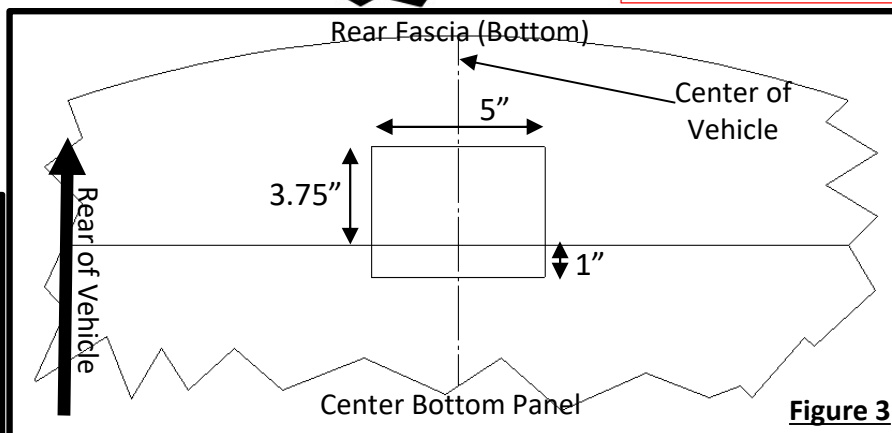

Figure 3
- Fascia: (Use figure 3 as a guide) From the centerline of the fascia measure and mark a section 2.5" each direction and 3.75" from the bottom forward edge of the fascia. Trim off the section that is marked.
- Center Under Body Panel: (Use figure 3 as a guide) From the centerline of the fascia measure and mark a section 2.5" each direction and 1" from the bottom rearward edge of the fascia. Trim off the section that is marked.